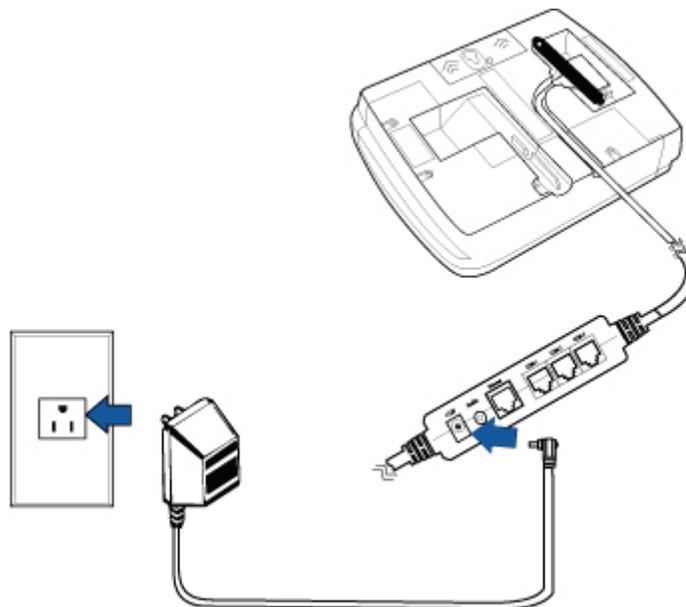

Figure 15 Power Pack Connection
- 2 Insert the multiport cable connector into the port on the back of the terminal (see Figure 15).
- 5 Plug the power pack into an indoor electrical power outlet (Figure 15).